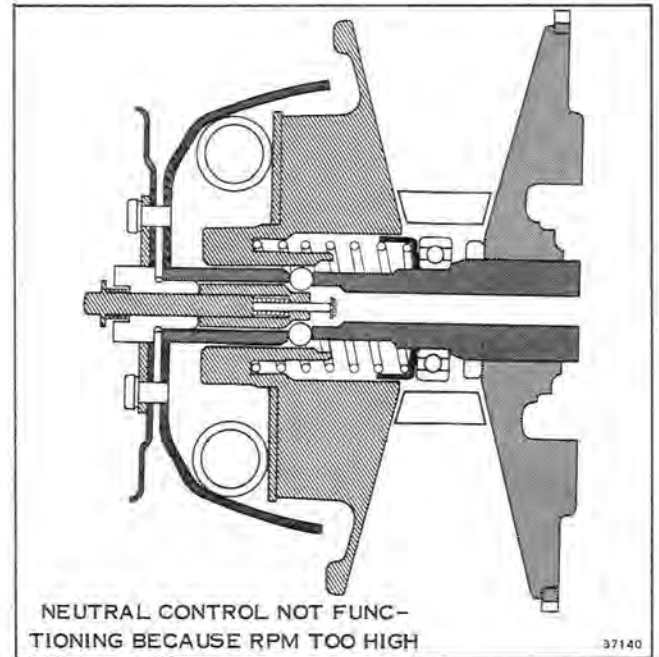

Figure 3-10
When the engine is running above approximately 2000 RPM, the garter spring will expand by centrifugal effect. See Figure 3-10. The garter spring will then ride up the ramp of the end cap and push the movable sheave toward the fixed sheave. In doing this, the movable sheave has covered the holes in the splined shaft. When the neutral lockout rod (P-Figure 3-8) is not pushed in, the spring loaded plunger (A-Figure 3-8) cannot move in because the movable sheave now covers the neutral lockout balls. Spring (R-Figure 3-8) will therefore be compressed as shown in Figure 3-10. If the engine speed is now reduced to below 2,000 RPM, the garter spring will close and allow the movable half of the sheave to move away from the fixed sheave. Spring (R) will then push the plunger inward. The neutral lockout balls will then move outward, through the splined shaft. The movable sheave will now be locked in the neutral position. See Figure 3-8.